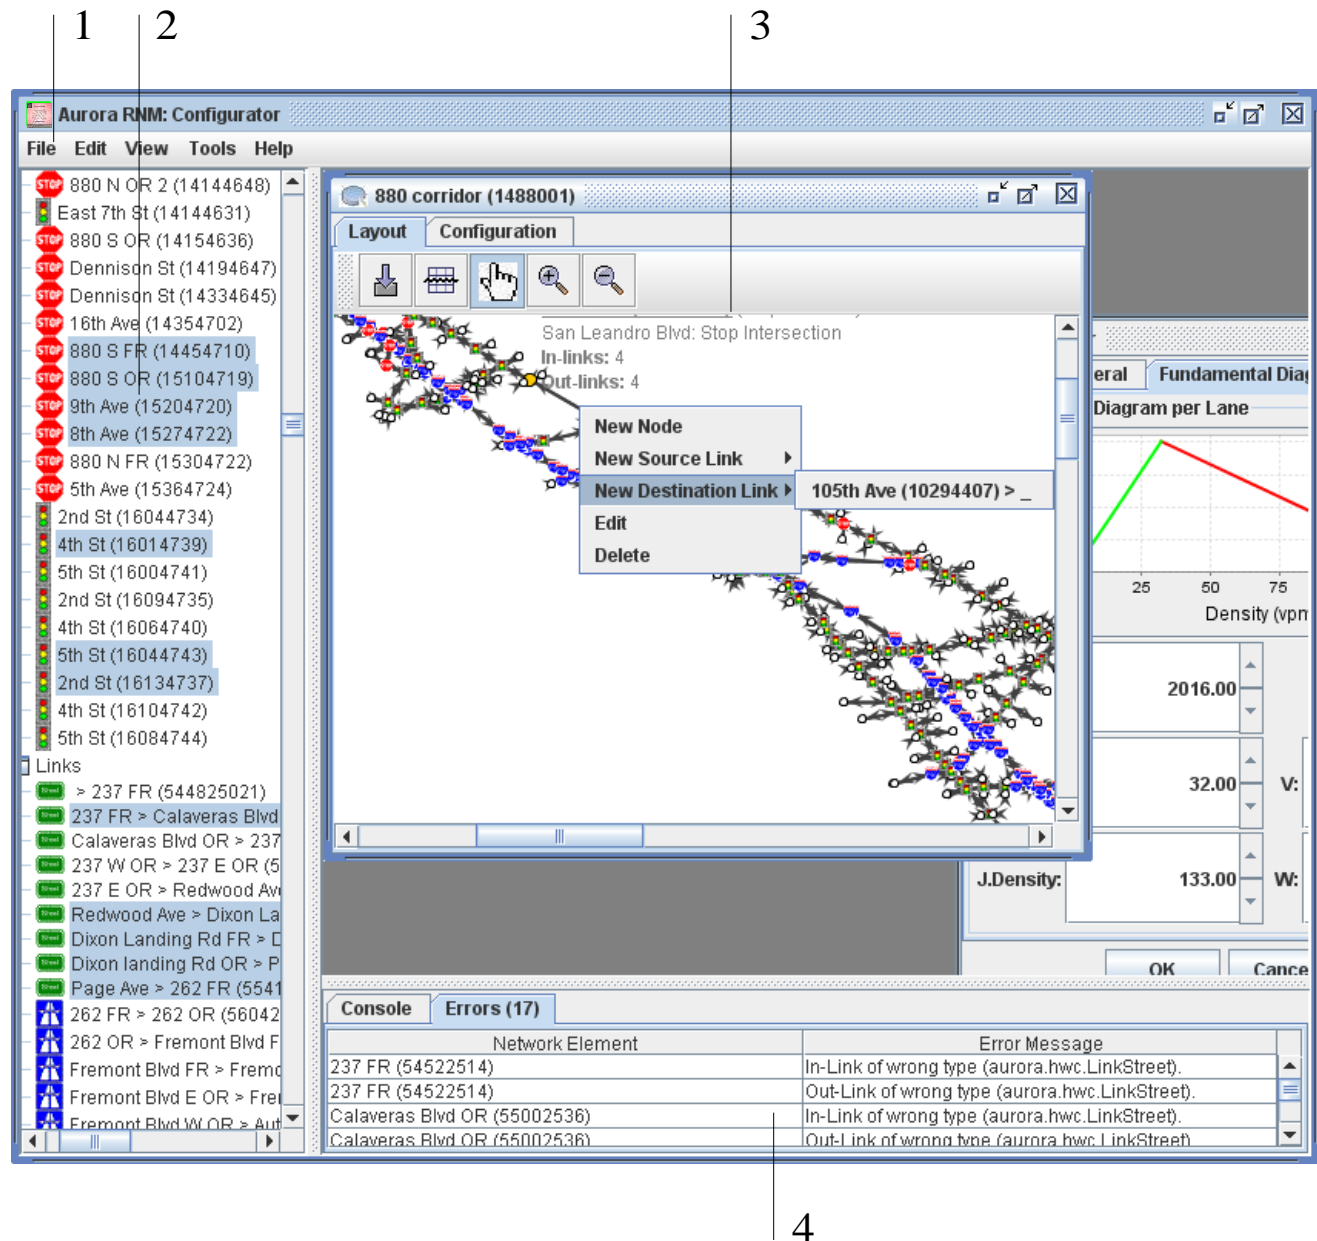

Figure 6-1: Aurora Configurator – look and feel.
Run the Aurora Configurator by selecting **Start** → **All Programs** → **TOPL** → **Aurora** → **Configurator**. Figure 6-1 presents the face of the Configurator. The application window is partitioned into 4 areas.
- **Validate** – checks the validity of the configuration and display a modal information window with the results. Configuration errors if any are listed in the error frame (Figure 6-1#5). This command is enabled only if a configuration is loaded.
- Click **OK**. The new node of given type will be created and displayed on the map (Figure 6-2a) and in the node list in the network tree (Figure 6-1#2).
5. Click **OK**. The new source or destination link of given type will be created and displayed on the map (Figure 6-2a) and in the node list in the network tree (Figure 6-1#2).